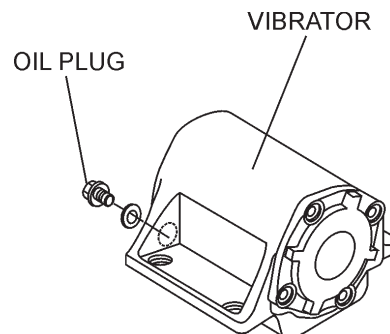

Figure 8. Vibrator Oil Plug
2. Check vibrator oil level by removing the plug (vibrator oil gauge) as shown in Figure 8. The oil level should be up to the oil plug. The vibrator holds 140 cc (approximately 1 pint). **IMPORTANT**, if oil is required, replace using only SAE 10W-30 motor oil.